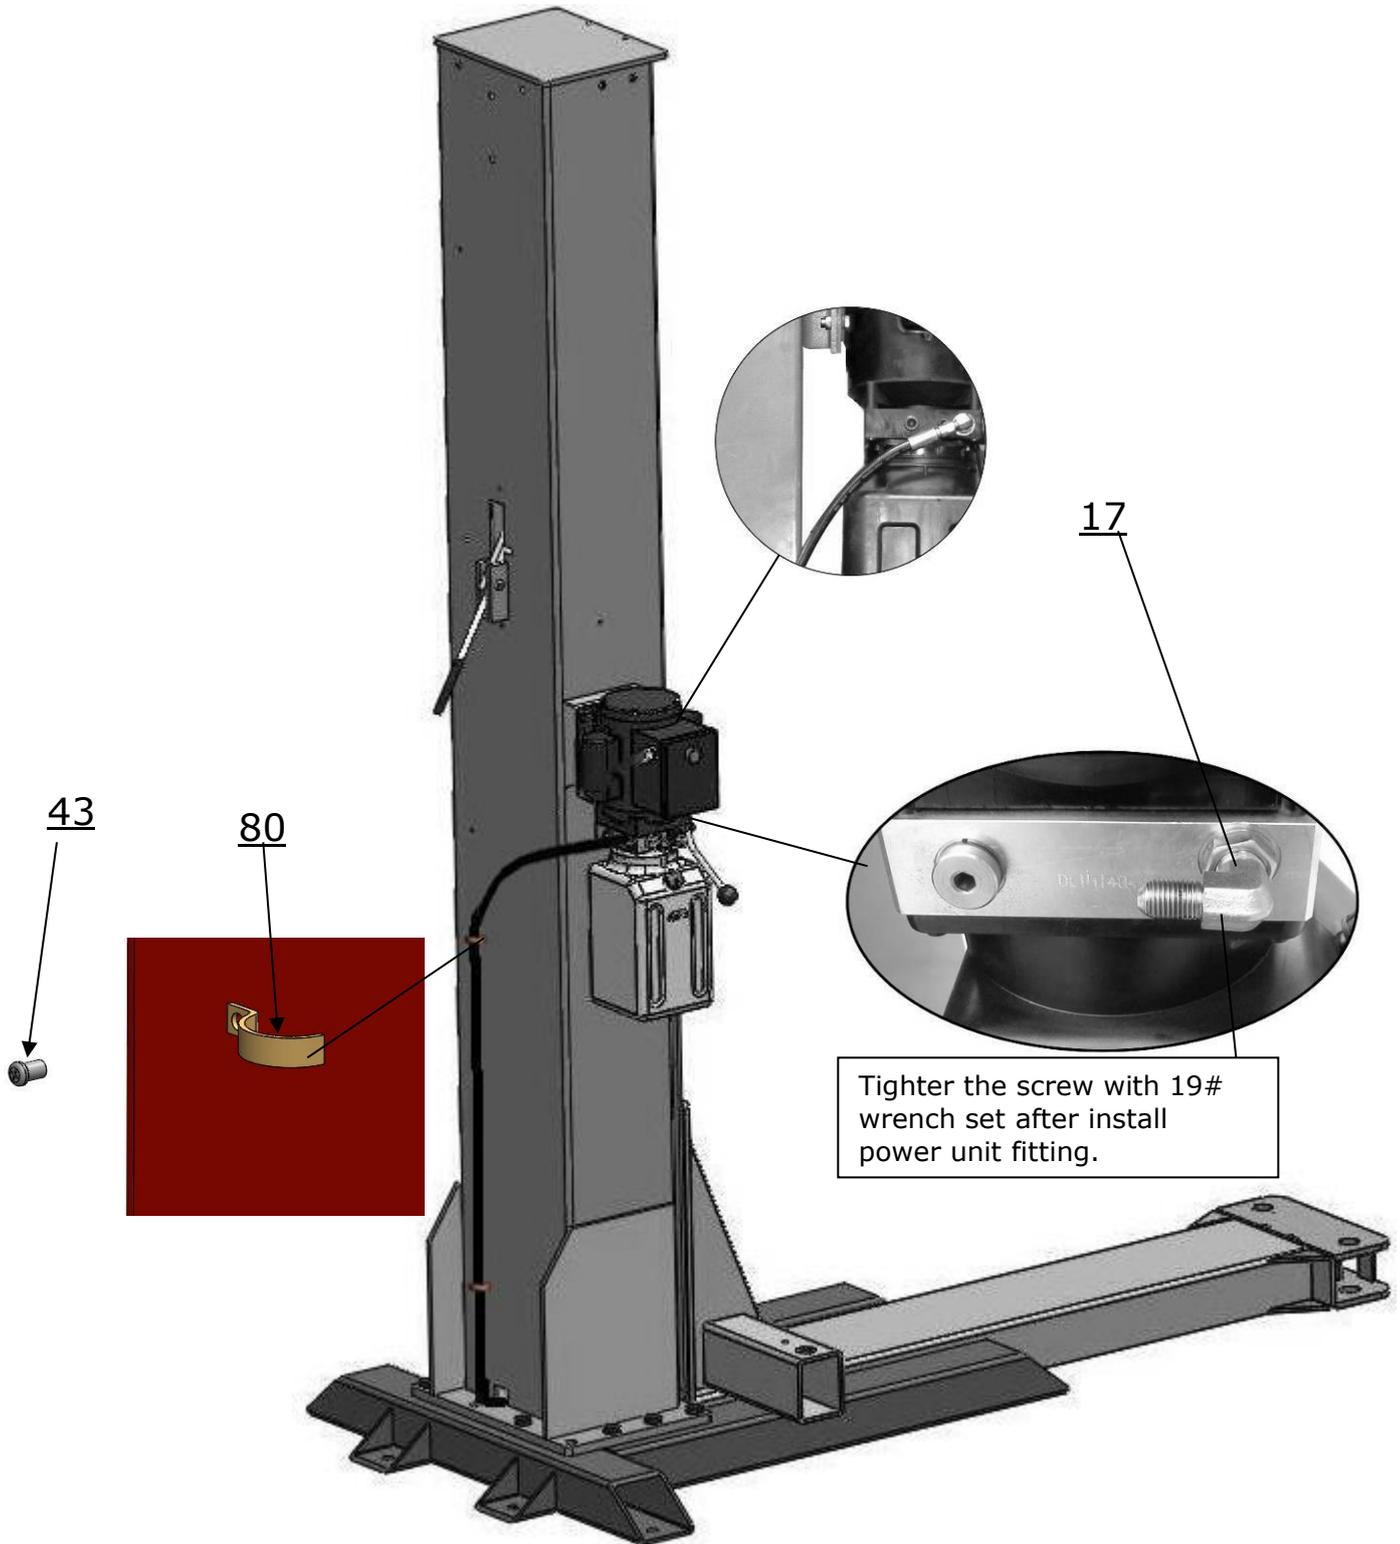

Fig.14
E. Install motor fixed plate, power unit and oil hose(See Fig.14)